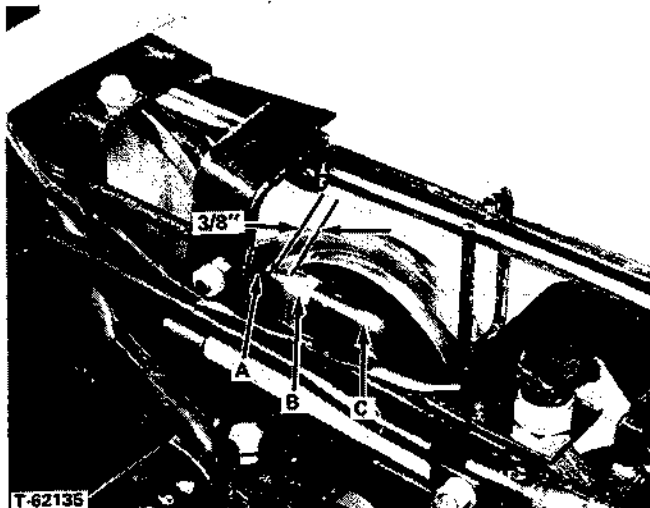

FIGURE 35 - Clutch Rod Clearance Adjustment
- Pull back firmly on the clutch rod (C, Figure 35). There should be a 3/8" (9.5 mm) gap between the clutch rod guide (A) and the clutch rod adjusting nut (B).